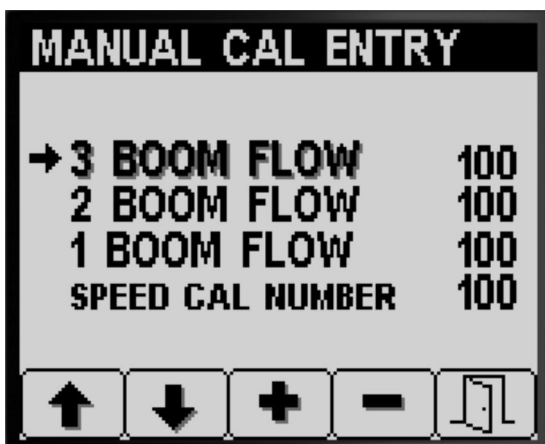

Figure 73
1. Press buttons 1 or 2 on the CALIBRATE sub-menu to navigate to the MANUAL CAL ENTRY option (Figure 73).
2. Press button 4 to select Speed calibration option (Figure 73).